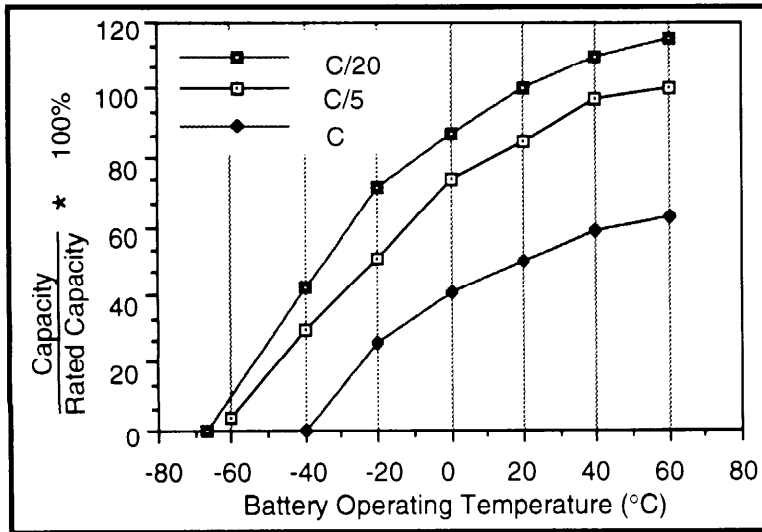

Figure 5. Lead-Acid Battery Capacity vs. Temperature.
**Temperature Correction** - Batteries are sensitive to temperature extremes and a cold battery will not provide as much power as a warm one. Most manufacturers provide temperature correction curves like those shown in Figure 5 for their batteries. For instance, a battery at 25°C has 100 percent capacity if discharged at a current rate of C/20. (The discharge rate is given as a ratio of the rated capacity, C, of the battery.) However, a battery operating at 0°C would have only 75 percent of the rated capacity if discharged at a C/20 rate. If the discharge rate is higher, say C/5, only 50 percent of the rated capacity will be available when the temperature is minus 20°C. Although the chart shows you can get more than rated capacity from when the battery temperature is high, hot temperatures should be avoided because they will shorten battery life. Try to keep your batteries near room temperature.